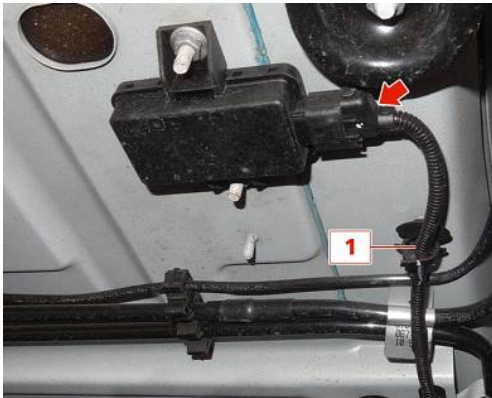

Fig.22
18. On the TPMS sensor, unlock the safety tab and disconnect the wire connector, then release the harness fastener. (1 in Fig.22)